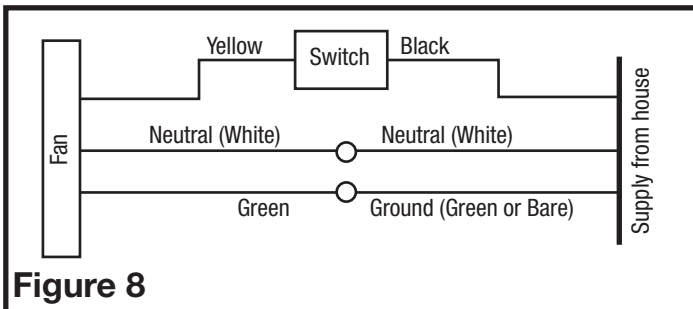

Figure 8
- 2b. From where you have chosen to access the fan's junction box, connect the white wire from the house to the white wire from the fan's receptacle. Connect the black wire from the wall switch to the yellow wire from the fan's receptacle. Connect the ground wire from the house to the green wire from the fan housing (**Figure 8**). Use approved methods for all connections.